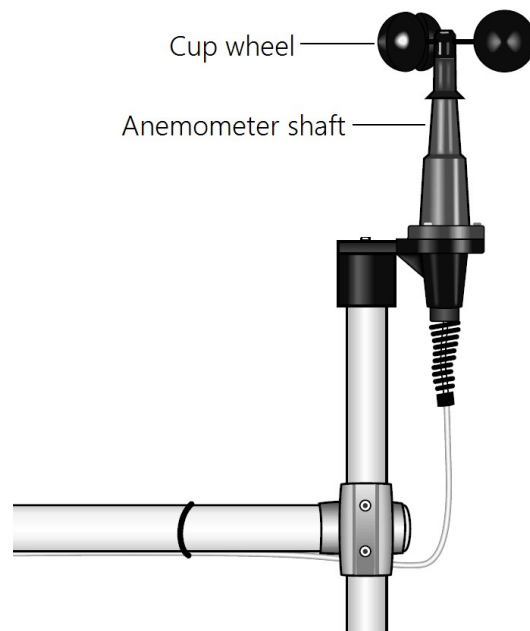

Figure 7-4. 03101 mounted to a crossarm via a 3/4 x 1 inch Nu-Rail fitting
3. Secure the 3/4-inch IPS, 10-inch-long, threaded aluminum pipe to the CM220 mount or 3/4 x 1 inch Nu-Rail fitting (Figure 7-4 [p. 14]).